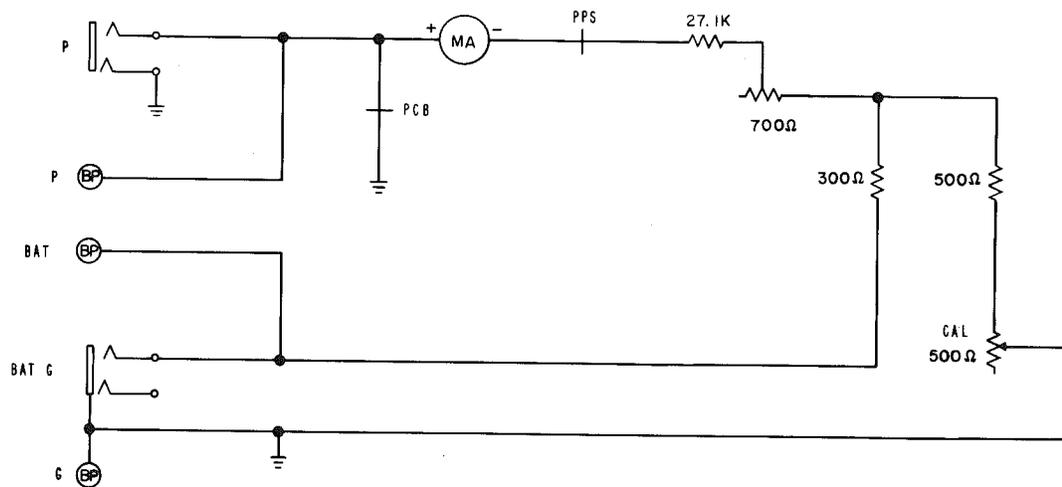

Fig. 2—Percent Break Test Circuit
**3.01** A simplified schematic of the circuit as used for the percent break test is shown in Fig. 2. The meter is calibrated to read full scale or zero percent break with the PPS-PCB switch nonoperated. When the PCB switch is operated and interrupter contacts are connected across the tip and ring of the P jack, the meter reading will be inversely proportional to the percentage of time the interrupter contacts are closed.